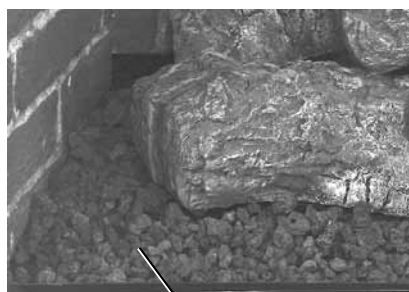

Figure 7
3. Install decorative volcanic stone. Refer to **Figure 7**. Sprinkle the decorative volcanic stone in a pleasing pattern directly on the firebox bottom, along the slope and to the back, at the right and left sides of the burner.